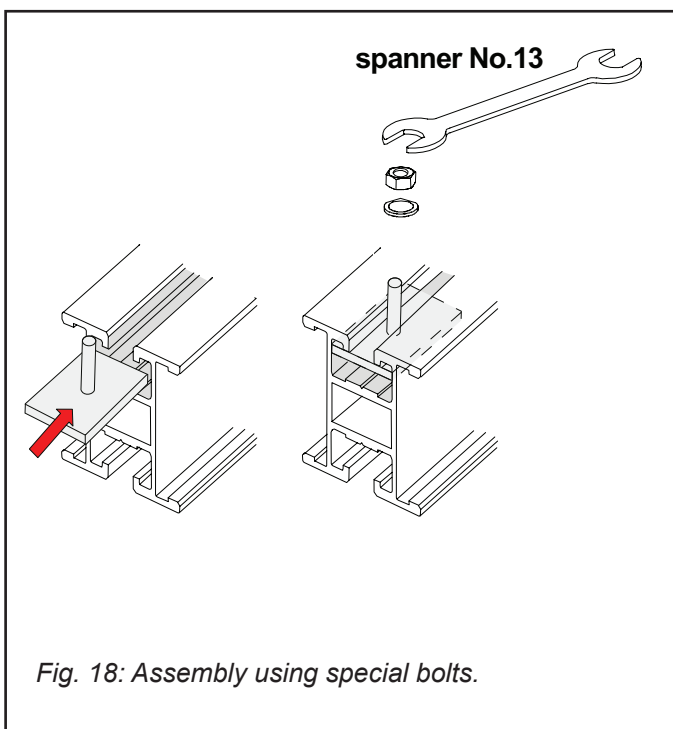

Fig. 18: Assembly using special bolts.
- Insert the M8 bolt with a special head (Fig. 18) into the rail grooves.
- Fix the L-support of the triangle to the base rail using screws, serrated lock washers and nuts for rails (Fig. 18) and tighten the connections.